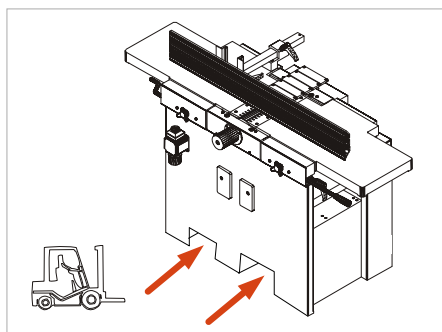
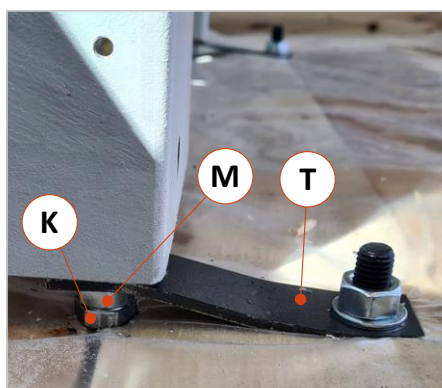

Figure 8: Setting down with a forklift truck
Figure 10: Remove transport straps
- Lift the machine off the pallet with the forklift and refit the four levelling supports to the feet (see ⇒ Figure 10). Feed the forks of the forklift truck as shown in ⇒ Figure 8.
- Remove the screw fastenings, transport plates and transport straps on the feet required for transport on the pallet, remove the pallet and refit the four levelling supports to the feet (⇒ Figure 10). Then place the machine with the crane at the final place of use.